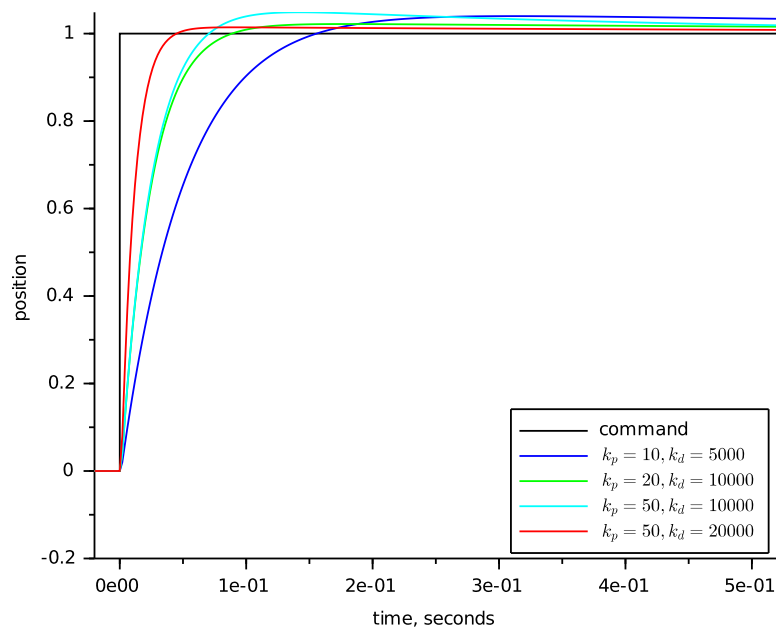

Figure 18: Precision Actuator with PD control.
With differential control you can stabilize the precision actuator system. Figure 18 on page 21 shows the response of the precision actuator system with proportional and derivative (PD) control for various values of proportional gain and derivative gain (derGain, k_d). This system settles in less than 1/2 or a second, compared to multiple seconds for the other systems.